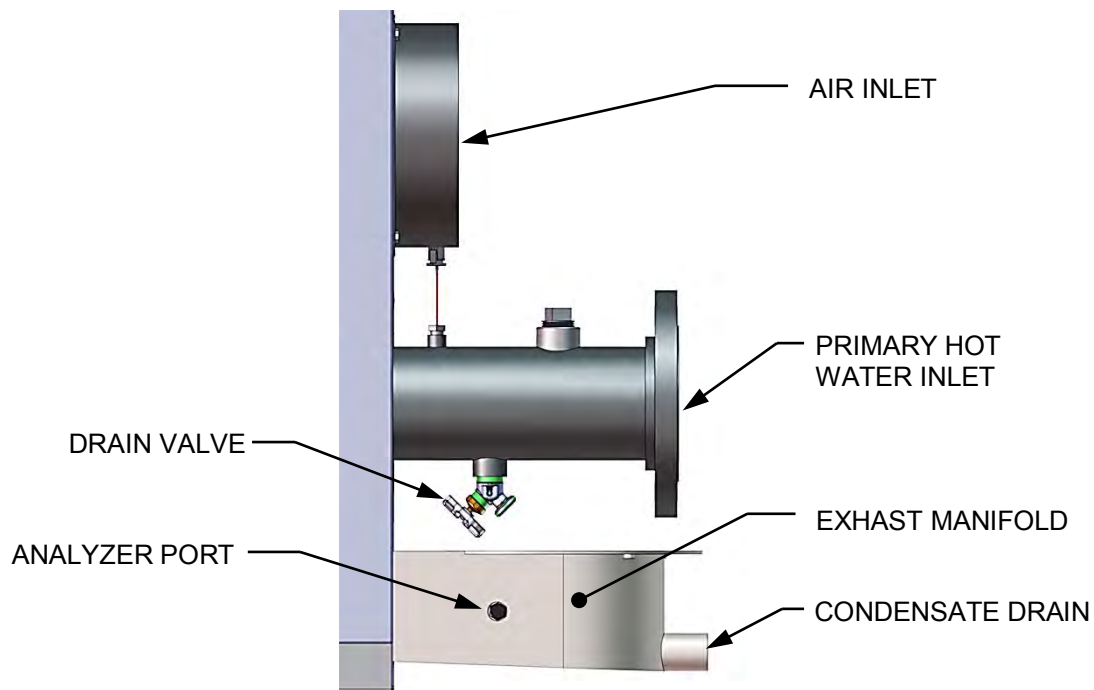

Figure 4-2: Analyzer Probe Port Location (Right Side Partial View)
The unit contains a 1/4" NPT port on the side of the exhaust manifold as shown in Figure 4-2. Prepare the port for the combustion analyzer probe as follows:
1. Refer to Figure 4-2 and remove the 1/4" NPT plug from the exhaust manifold.